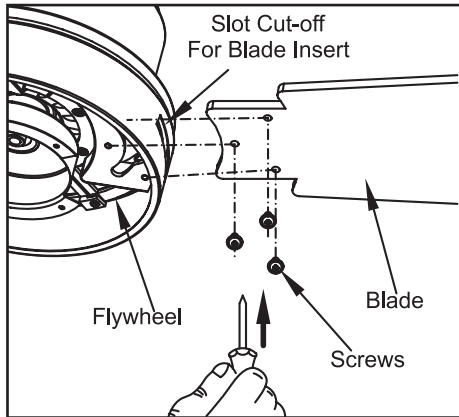

Figure 9
1. Insert the blade through the slot cut-off in the center flywheel, align the three screw holes in the blade with the screw holes in the flywheel and secure with the screws provided (Figure 9).